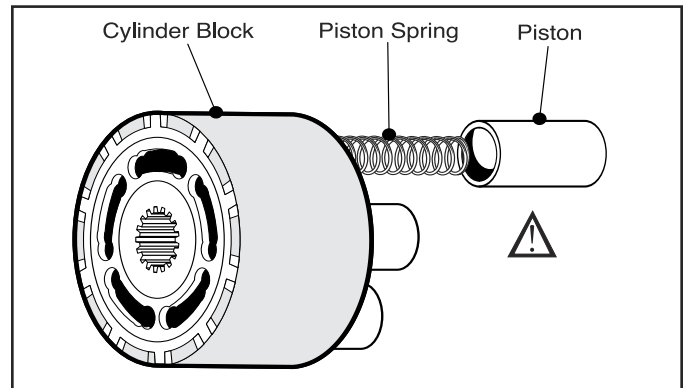

Fig. 25, Cylinder Block Assembly
4. Remove the Cylinder Block Assembly from the Motor Shaft. (Fig. 25)